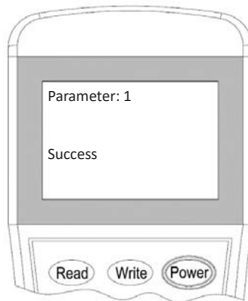

Figure 8
4. Input the “1” then press “Write” to change the setting (Figure 8) and LED will turn-off. To resume the default setting, press “Clear” and then press “Write”.